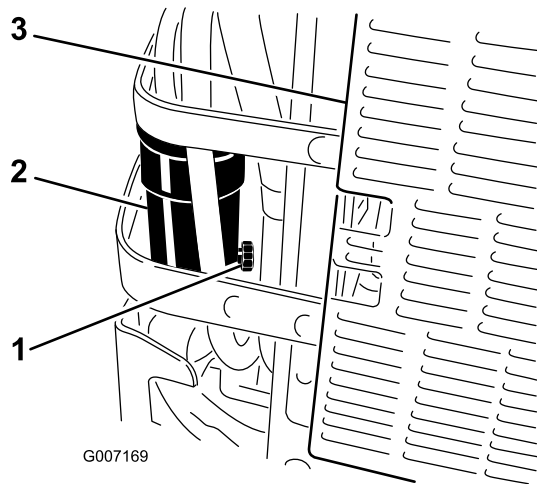

Figure 42
6. Open the drain valve on the water separator approximately one turn to allow water and other contaminants to drain (Figure 42).
7. Close the drain valve when only diesel fuel comes out (Figure 42).